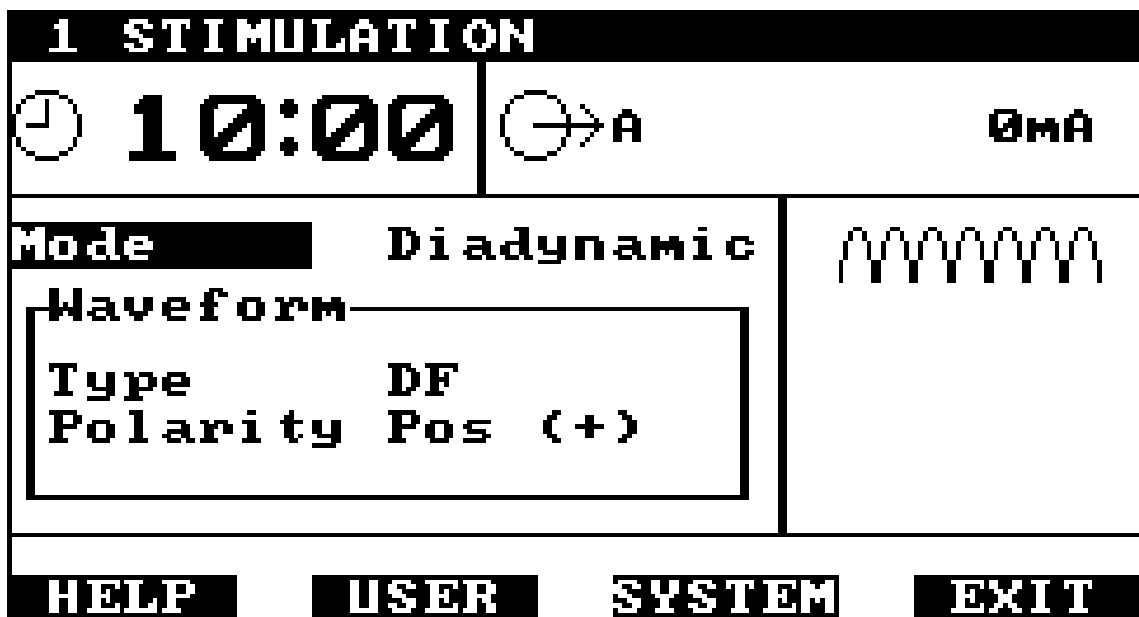

Figure 14 - Diadynamic Set-Up screen
11. In diadynamic mode the graphic display on the right shows the selected current type (DF, MF etc). The set-up screen is shown in figure 14.
27. **F1 - HELP:** When the label for function key F1 is HELP, pressing F1 will suspend the current activity and the display will show help text relevant to the current display or activity (see figure 14) . If the help text is more than can be displayed at one time, it may be scrolled up or down, one line at a time using the up and down arrow keys, or one screen full at a time by pressing F2 - PgUp or F3 - PgDn. To exit from HELP, press F4.